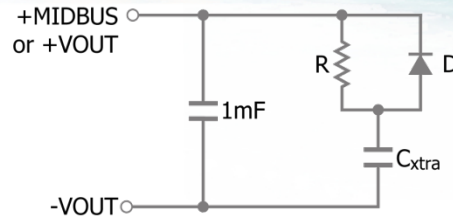

Figure 18: Series R||D network for capacitance at +MIDBUS or +VOUT in excess of 1 mF
- 3) +MIDBUS should *not* be connected directly in parallel between units. It is acceptable to share a single +MIDBUS holdup capacitor between multiple units by connecting multiple R||D elements (from Figure 18) with the configuration shown in Figure B on page 3. The recommended value of +MIDBUS capacitance should be placed locally at each unit.
Figure 17: Response to 50 ms line interruption; 60 Hz; 1250 W power drawn from +VOUT pin; 7.5 mF total capacitance placed at +MIDBUS with series R || D network as shown in Figure 18.
Capacitance in excess of the 1 mF maximum value requires an additional series R||D network for optimum stability, as shown in Figure 18. The diode must be rated for at least 300 V and a fast recovery type is recommended to improve forward recovery characteristics. The resistor must be adequately rated for pulse capability: a ceramic composition type is recommended. See Figure B on page 3 for suggested resistor and diode part numbers.
For capacitors between 1 mF and 10 mF, the resistor value shown in Figure 18 should be 4.7 Ω . Capacitors larger than 10 mF may be used, but it is possible to trip the "+MIDBUS Under-Voltage Shutdown" protection if +MIDBUS does not reach 50 V within 150 ms after it begins to ramp up. Increasing the resistor value to 10 Ω will circumvent this protection feature by causing the +MIDBUS voltage to quickly rise above 50 V due to the voltage drop across the resistor while in current limit. However, a 10 Ω value also increases the capacitor recharge time, affecting the ability to run through repetitive transients.